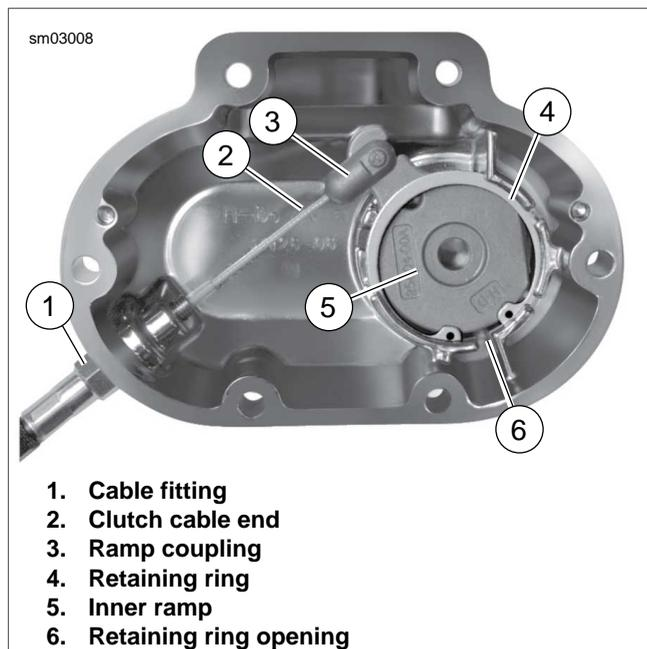
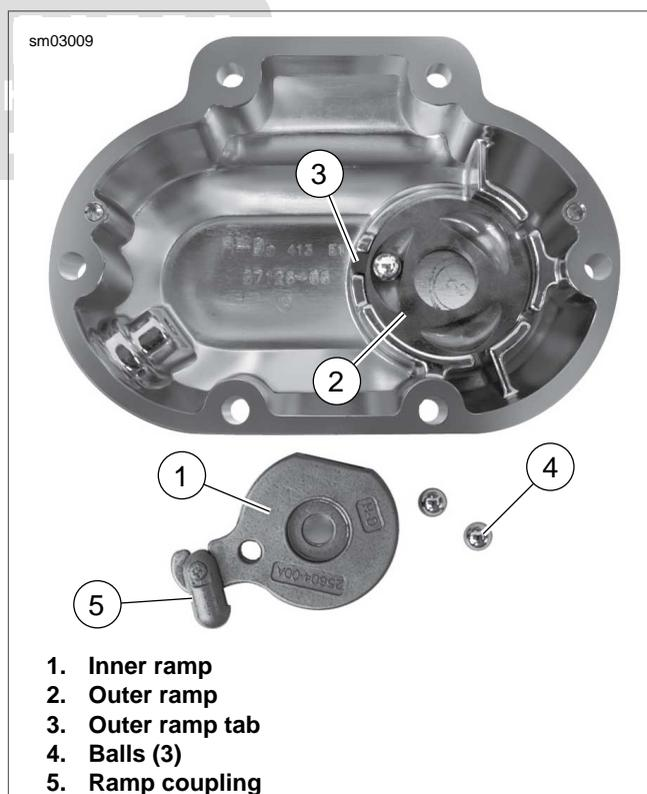

Figure 7-4. Clutch Cable Connection
Figure 7-5. Coupling and Ramp Assembly
6. See Figure 7-4. Remove retaining ring (4). Lift inner ramp (5) and ramp coupling (3) out of clutch release cover. Disconnect clutch cable end (2) from the ramp coupling (3).
7. Remove coupling (3) from inner ramp.
8. See Figure 7-5. Remove balls (4) and outer ramp (2).
1. See Figure 7-4. Screw clutch cable fitting (1) into clutch release cover. Do not tighten at this time.
4. See Figure 7-4. Connect cable end to ramp coupling (3). Install coupling on inner ramp (5) and place inner ramp and coupling in position in clutch release cover.